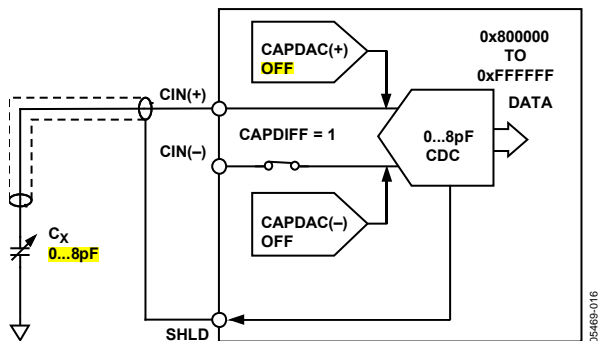

Figure 27. CDC Single-Ended Input Configuration
**The CDC (without using the CAPDACs) measure the positive (or the negative) input capacitance in the range of 0 pF to 8 pF (see Figure 27).**